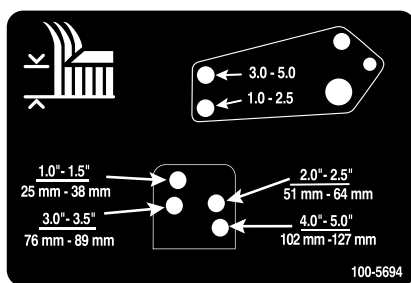

Figure 26
- Align the damper-link holes with the selected height-of-cut bracket holes in the mower-deck frame, insert the clevis pins, and install the hairpin cotters (Figure 26).